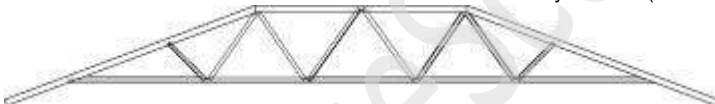

Figure 5.7 Truncated Truss/Hip Girder Truss
5.7) Truncated Truss: A truss of varying depth with a horizontal top chord. Truncated trusses are usually used to form a hip end. (Refer Fig. 5.7)